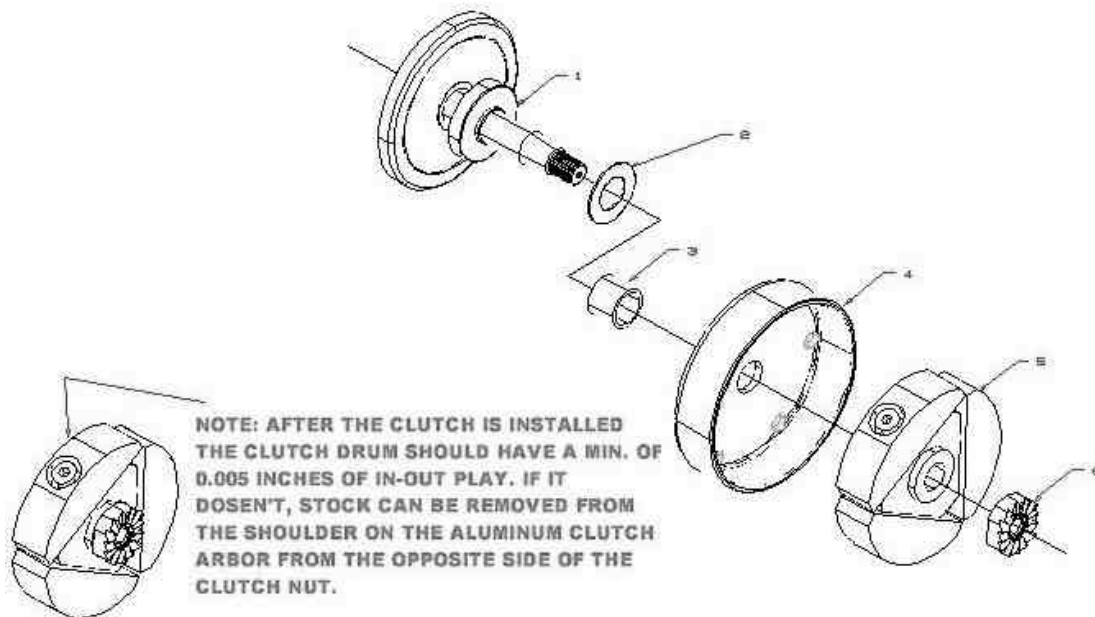

Figure 35, Clutch Assembly Drawing
7. Apply high strength (red) thread locking agent to the threads and install the nut and torque to 40 ft-lb (54Nm) with the special socket (see figure 35).